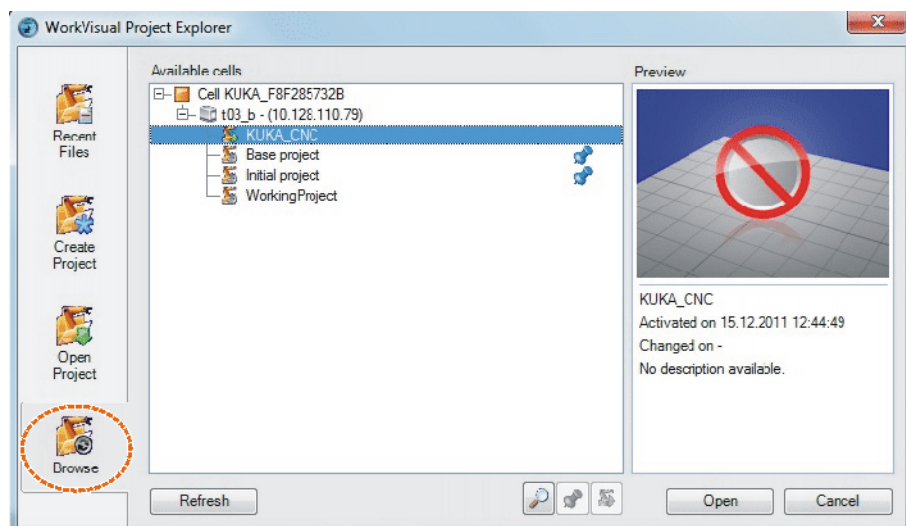

Fig. 6-2: Loading controller project
2. Load current controller project (>>> Fig. 6-2).